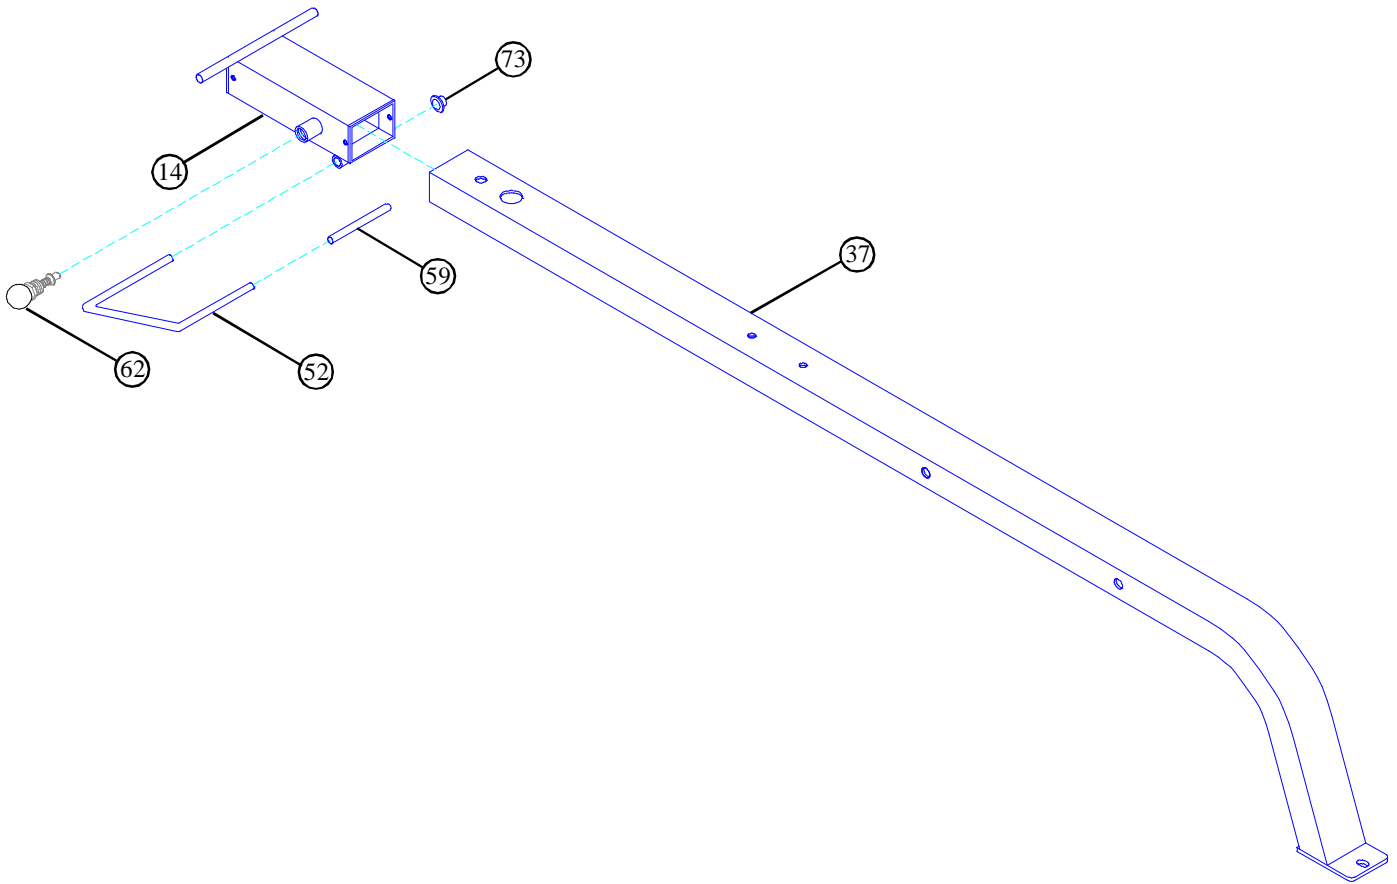

**FIGURE 4**
- **SECURELY** assemble the BEARING HOUSING (10) and the CENTER PULLEY BRACKET (27) to the FRONT UPRIGHT (29) using two 1/2 X 4" BOLTS (96) and two 1/2" LOW HEIGHT LOCK NUTS (86).
- Assemble the RIGHT PEC ARM (6) and one PEC CAM (28) to the BEARING HOUSING (10) using one 3/4" SLEEVE BEARING (72), two 3/4" FLANGE BEARINGS (71), one 1/2" WASHER (84), and one 1/2" LOCK NUT (85) as shown in FIGURE 4. (**NOTE: SECURELY tighten, then back nut off 1/4 turn to allow the PEC ARM to rotate freely.**)
- Assemble the LEFT PEC ARM (7) and one PEC CAM (28) to the BEARING HOUSING (10) using one 3/4" SLEEVE BEARING (72), two 3/4" FLANGE BEARINGS (71), one 1/2" WASHER (84), and one 1/2" LOCK NUT (85) as shown in FIGURE 4. (**NOTE: SECURELY tighten, then back nut off 1/4 turn to allow the PEC ARM to rotate freely.**)
- **SECURELY** assemble a 3/8 X 2-3/4" SPRING PIN (62) to the to the RIGHT & LEFT PEC ARM (6 & 7). See FIGURE 4.
- Apply two 1" X 1" GLIDES (60) to the BEARING HOUSING (10) where the PEC CAMS (28) come in contact with the BEARING HOUSING (10) as shown.
- **SECURELY** assemble one PEC ARM PAD (99) to both the RIGHT & LEFT PEC ARMS (6 & 7) using four 3/8 X 3-1/4" BOLTS (91) and four 3/8" WASHERS (80). See FIGURE 4.
- **SECURELY** assemble two 4 X 7" ROLLER PADS (41) to the FRONT UPRIGHT (29) using one 21-1/2" TUBE (40) and two 1-5/16" SHAFT COLLARS (79). **SECURELY** tighten set screws on SHAFT COLLARS (79). See FIGURE 4.